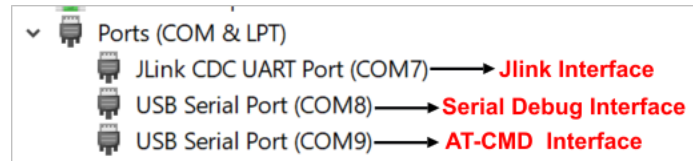

Figure 17. Windows – COM ports
- For Windows, three USB Serial COM ports are displayed in the device manager (see Figure 17).